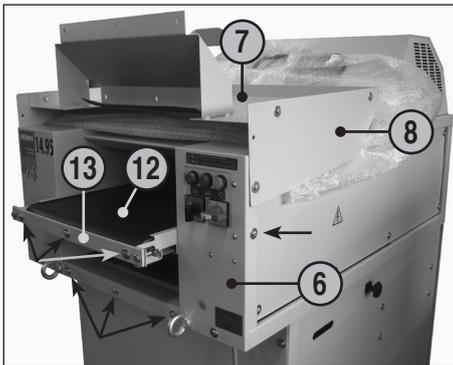

fig. 1
- 6 = Housing (fig. 1, 2, 4)
- 7 = Table (fig. 1, 2, 4, 5, 6)
- 8 = Guard panel (fig. 1, 2, 4)
- 12 = Conveyor belt (fig. 1, 2)
- 13 = Conveyor belt retainer (fig. 1)
### POSITIONING OF THE TABLE (7) (figs. 1, 2 and 3):
1. Unscrew each of the 3 screws with washers on the front wall of the housing (6) and on the front of the conveyor belt attachment (13) as well as the one screw on both sides under the protective plate (8) (see arrow markings Fig. 1).